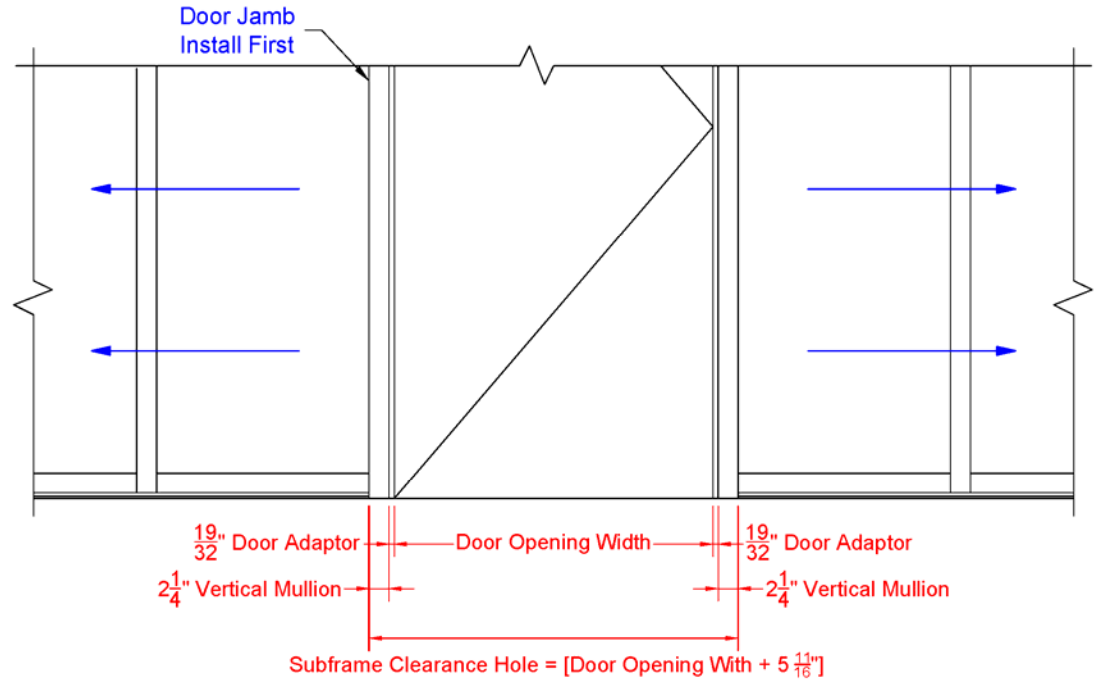

Figure 11
- When a door opening is required, use the equation in figure 11. Install the door frame true and plumb in the opening as specified on the shop drawing or architectural drawings.